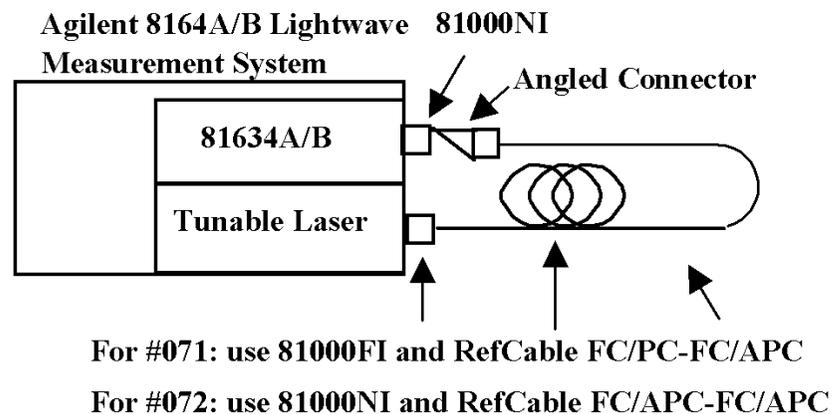

Figure 31 Test Setup for Power Flatness Tests - High Power output, using the built-in attenuator
- 1 Set up the equipment as shown in Figure 31: